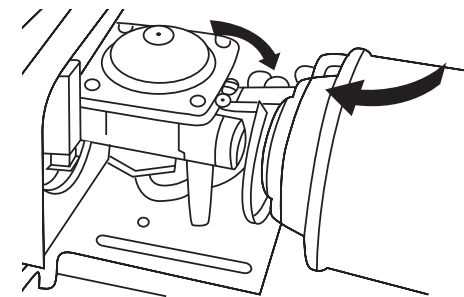

Fig. 2
2. Open the Cartridge Cover: slide the gas cartridge, top end first and with its notch up, into the compartment. Align the notch with the loading guide in the compartment. (Fig. 2)